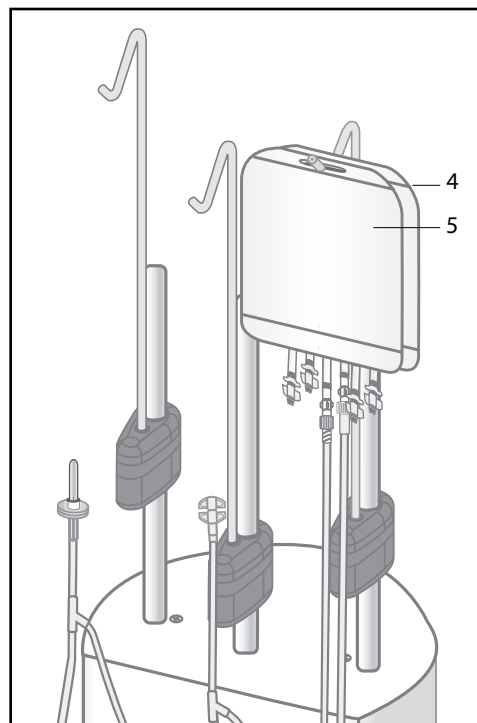

Figure 30: Attach Non-Target Cell Bag (4) and Reapplication Bag (5) to bag hanger.
1. Attach the Non-Target Cell Bag (4) and the Reapplication Bag (5) to the right hand bag hanger on the instrument as shown (see fig. 30).